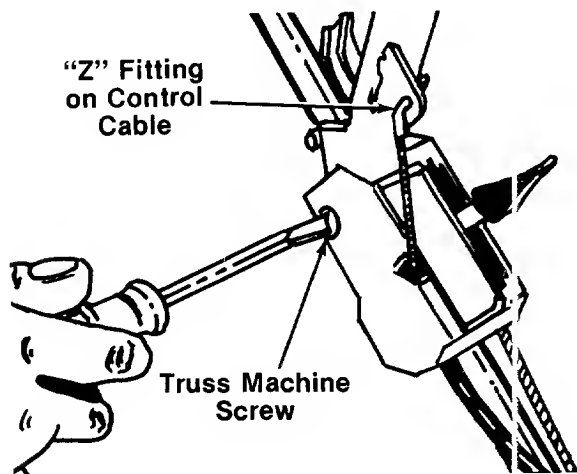

FIGURE 29.
5. Remove one truss machine screw on the inside of the control housing as shown in figure 29.